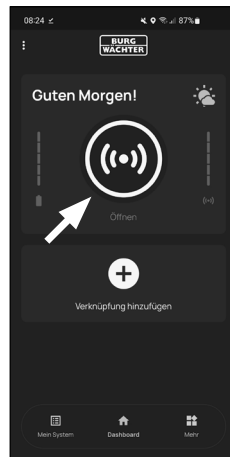

Fig. 1
To use the cylinder (Fig. 1) and keypad (Fig. 2), remove the battery protection strips.
- 1 Open the BURGSmart app and press the "ACCESS" button in the middle (Fig. 1).